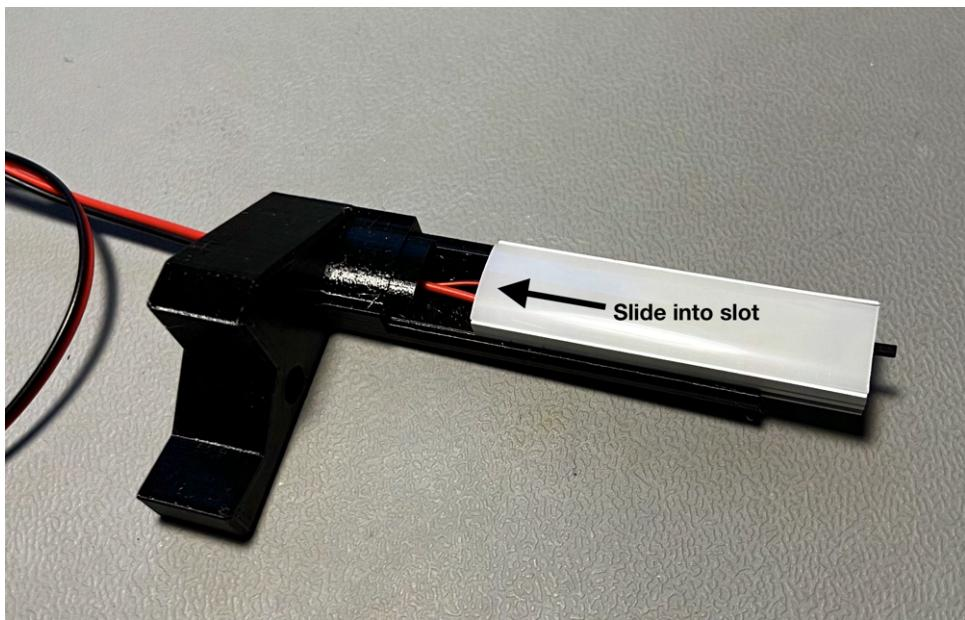

Figure 10: How to slide in the LED light into the 3D printed holder.
1. Start by sliding the wiring through the slot provided. Next, insert the LED light into the 3D printed holder, as illustrated in Figure 10. Slide it all the way in until it is flush with the end.